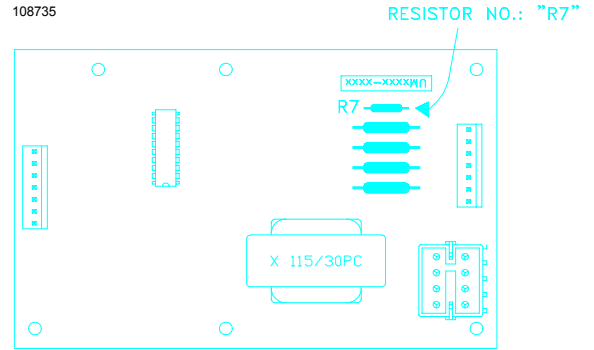

Figure 5: Resistor R7 Location
5. Remove R7 as shown in Figure 5. Clip leads and remove completely from the board. Resistor R7 is located on the board just below the serial number label (starts with UMxxxx-xxxx) and just above a bank of four 2 watt resistors.